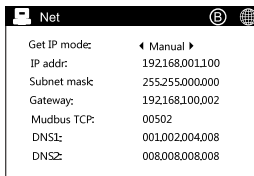

Fig. 9-10 Parameter setting interface of SolarInfo Logger port
Step 5 Set the network parameters for SolarInfo Logger, including the IP address, subnet mask, default gateway and port number, as shown in Fig. 9-10. For details about configuration, please refer to 0.0.0 Net Parameters Settings.